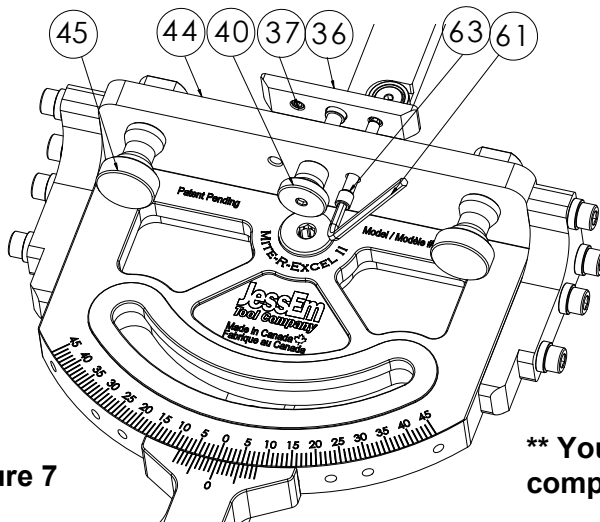

Figure 7
- Once the fence locating pin knob (Part #40) is engaged into the Fence Locating Nut (Part #36) See **Figure 7**, tighten the 2 Fence Knobs (Part #45).